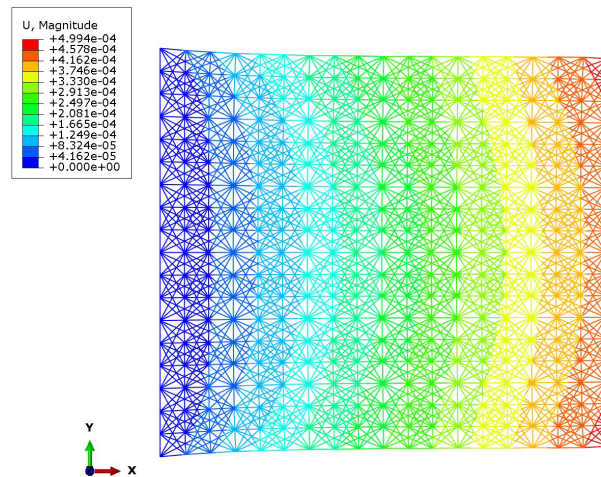

Figure 3: Displacement Contour map
- Displacement Contour Map: Displays the nodal displacement field U over the deformed domain a sample example of the output is shown in figure 3.